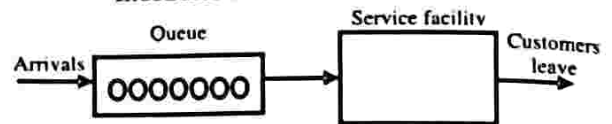

Figure 5.3: Single Server, Single Queue Model
- a) **A Single Service Facility (Series):** In this service facility, there is only one service station to provide the service. This is defined as a single channel service system. A single server and a single line of customers are involved in a single server model. Figure 5.3 illustrates such a model.